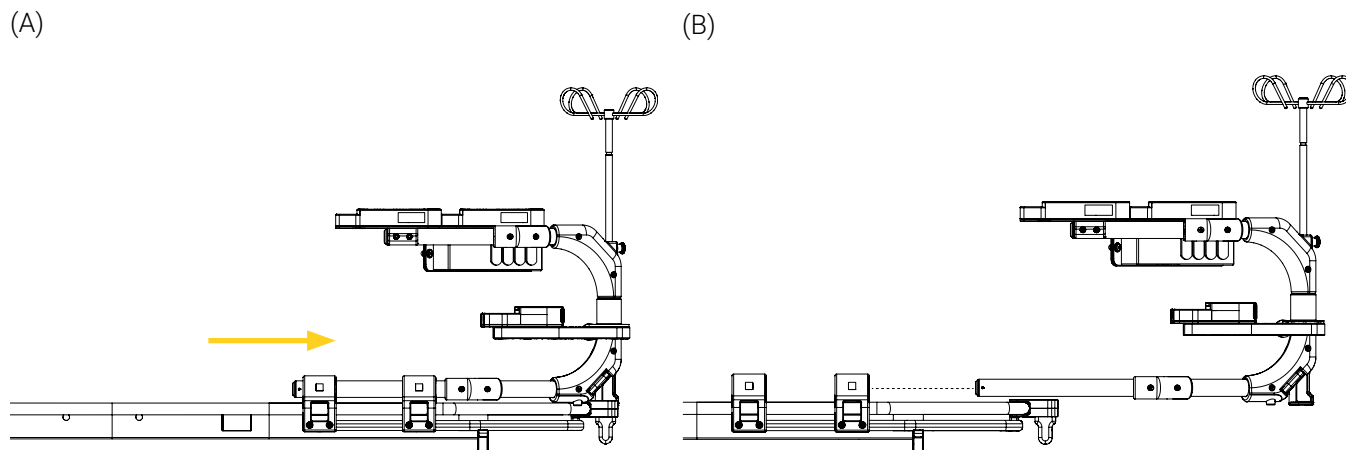

Figure 28: Removing the mobile structure from the clamp blocks
12. Remove the mobile structure from the clamp blocks (Figure 28). Refer to « Remove the Mobile Structure from the Cot Support Structure » on page 20 if needed.